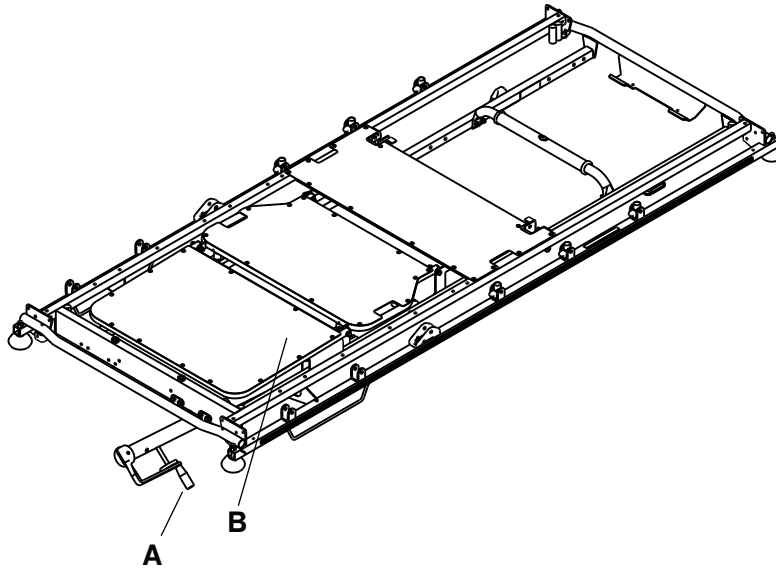

Figure 6 – Gatch and crank handle
To raise the gatch (B), turn the crank handle (A) clockwise (Figure 6).